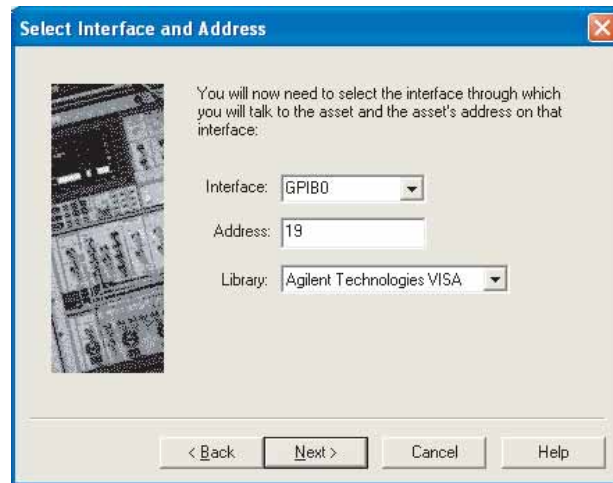

Figure 25 Select I/O library
- 5 From the **Interface** pull-down list, select **GPIB0**. (Refer to Figure 25).